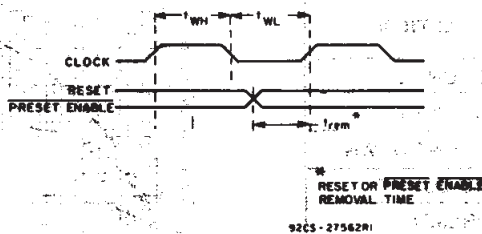

Fig. 10 — Timing diagram defining t_{rem}
* The time required for RESET or PRESET ENABLE control to be removed before clocking (see timing diagram, Fig. 10).